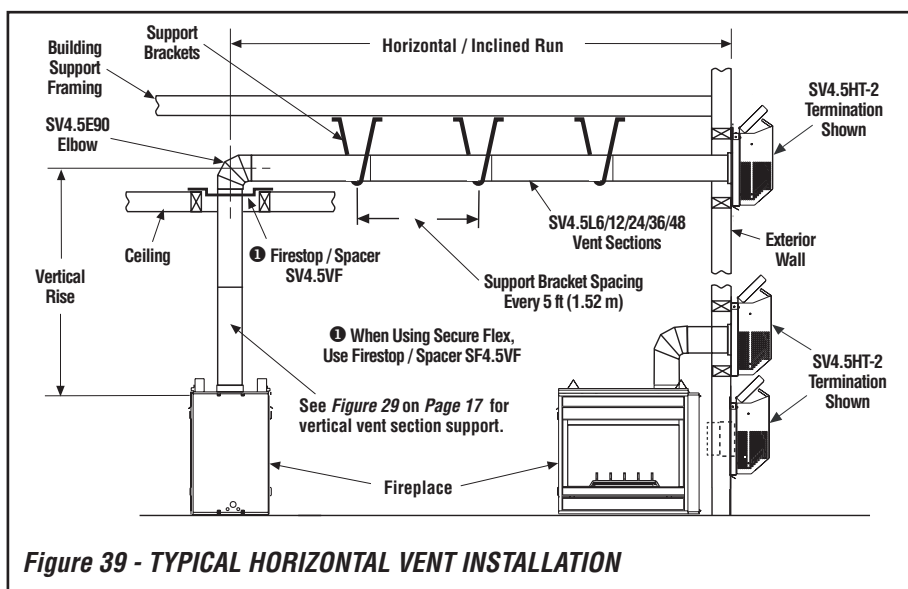

Figure 39 - TYPICAL HORIZONTAL VENT INSTALLATION
Figures 39, and Figures 42 to 47 on Pages 23 to 27 and their associated Horizontal Vent Table illustrate the various horizontal venting configurations that are possible for use with these appliances. **Secure Vent**® pipe applications are shown in these figures; **Secure Flex**® pipe may also be used. A Horizontal Vent Table summarizes each system's minimum and maximum vertical and horizontal length values that can be used to design and install the vent components in a variety of applications.
I. Continue installation of horizontal/inclined sections - Continue with the installation of the straight vent sections in horizontal/inclined run as described in **Step E**. Install support straps every 5 ft. (1.52 m) along horizontal/inclined vent runs using conventional plumber's tape. See **Figure 39**, it is very important that the horizontal/inclined run be maintained in a straight (no dips) and recommended to be in a slightly elevated plane, in a direction away from the fireplace of 1/4" rise per foot (20 mm per meter) which is ideal, though rise per foot run ratios that are smaller are acceptable all the way down to at or near level. Use a carpenter's level to measure from a constant surface and adjust the support straps as necessary.